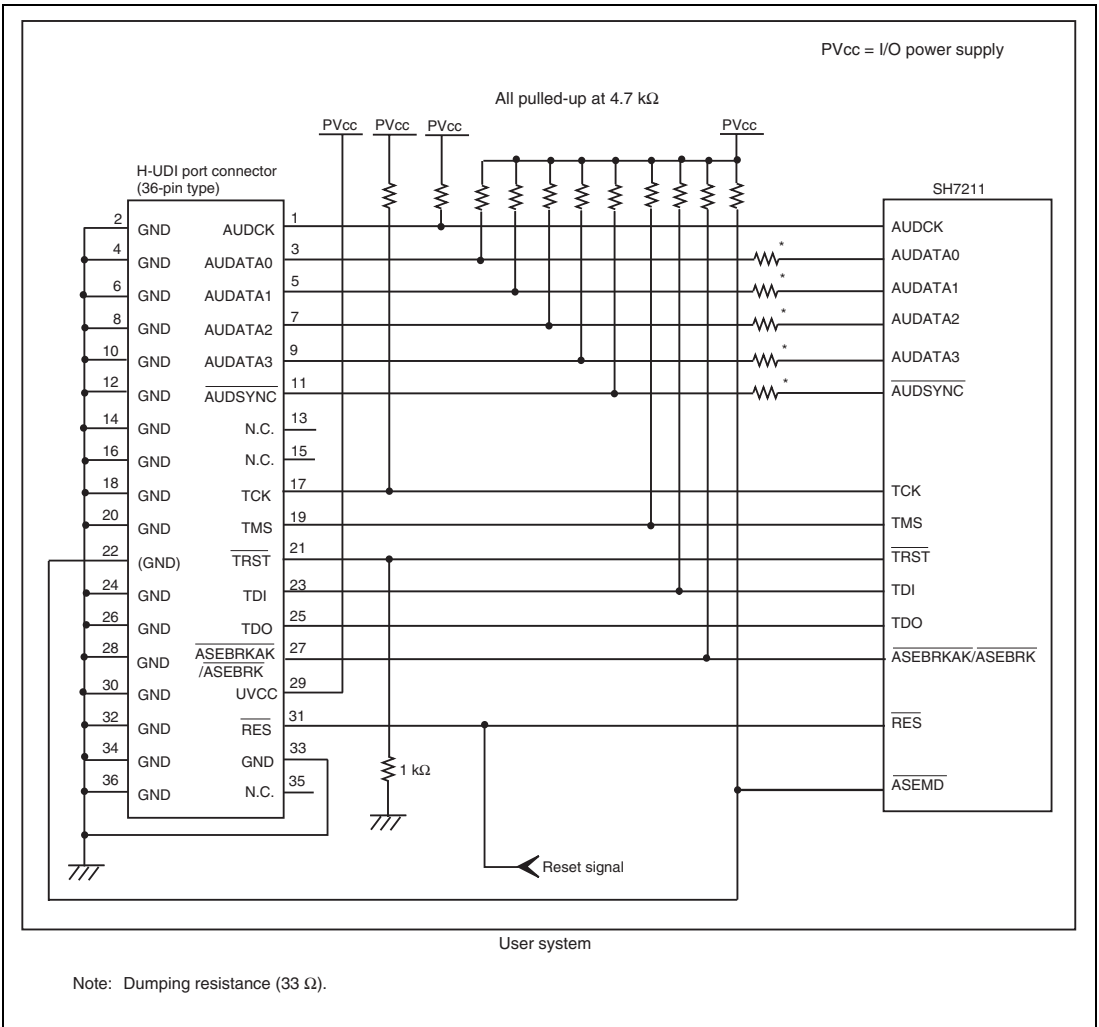

Figure 2.11 Recommended Circuit for Connection between the H-UDI Port Connector and MCU when the Emulator is in Use (36-Pin Type)
Figure 2.11 shows a recommended circuit for connection between the H-UDI and AUD port connectors (36 pins) and the MCU when the emulator is in use.
- (1) When the emulator is used: `_ASEMD = 0` (ASE mode)
- (2) When the emulator is not used: `_ASEMD = 1` (normal mode)Figure 2.11 shows an example of circuits that allow the `_ASEMD` pin to be GND (0) whenever the emulator is connected by using the user system interface cable.
7. The resistance values shown in figure 2.11 are for reference.